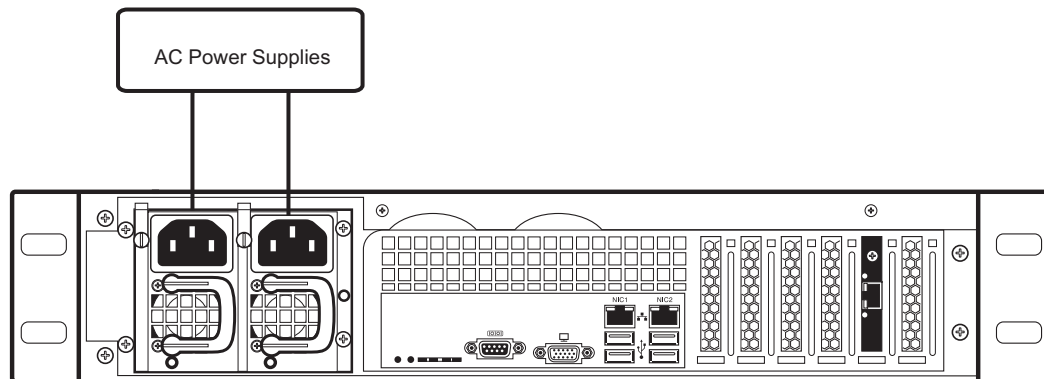

Figure 2.20 TMG7800-CTRL AC Power Connections
1. Connect the first power connector of the TMG7800-CTRL to the first power source. See Figure 2.20.